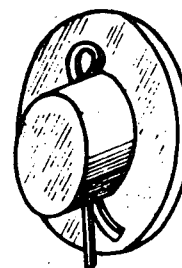

Fig. 4
- b) Secure it with the retaining element (Fig. 4).